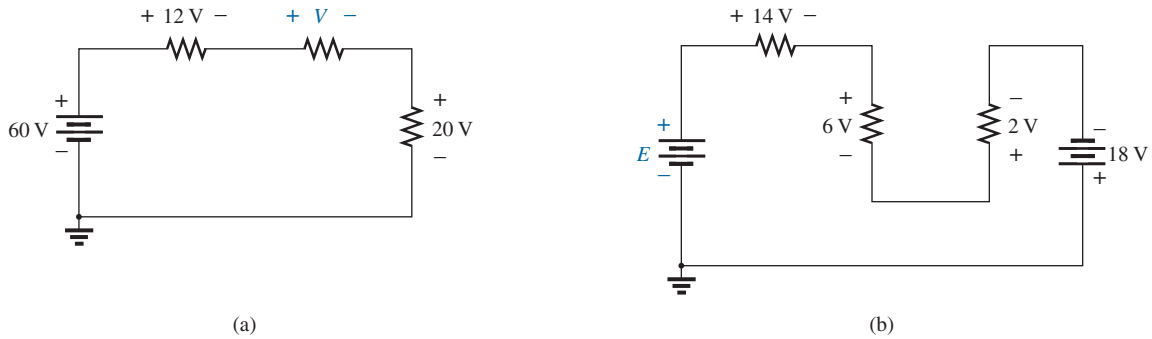

FIG. 5.105
- 21. Using Kirchhoff's voltage law, determine the unknown voltages for the configurations in Fig. 5.105.